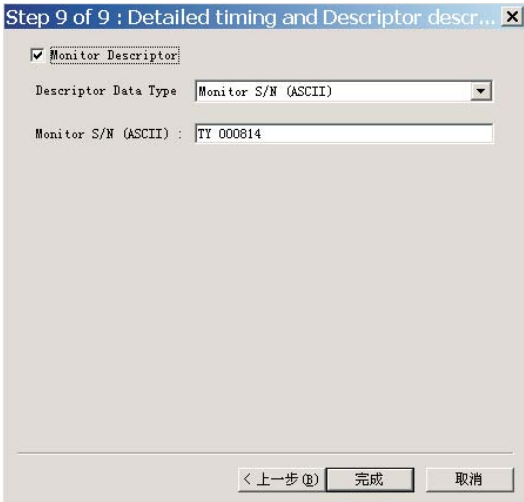

Fig. 22
- Click Next , bring up Fig. 22.